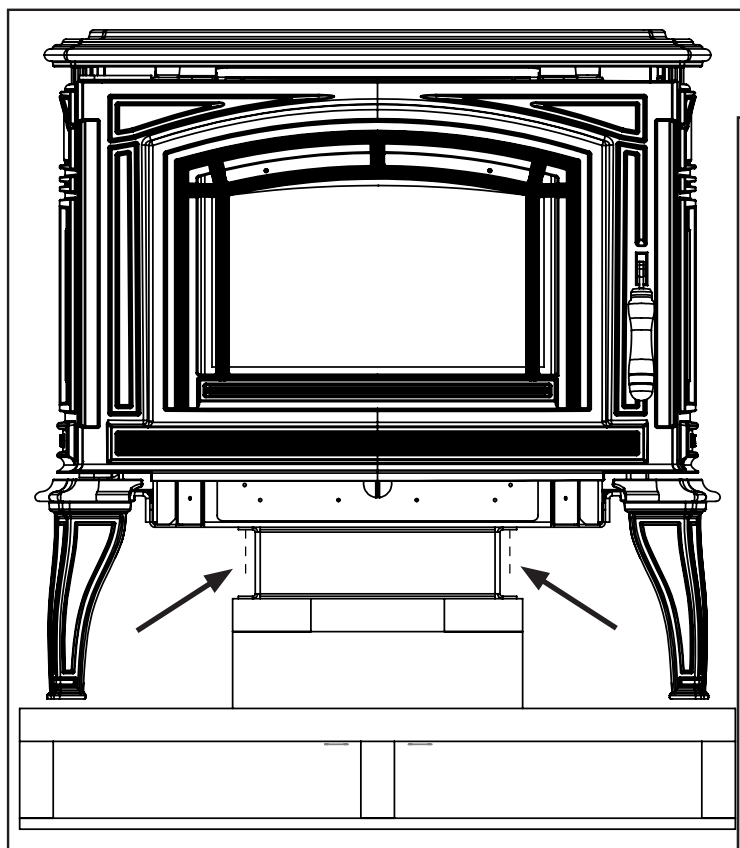
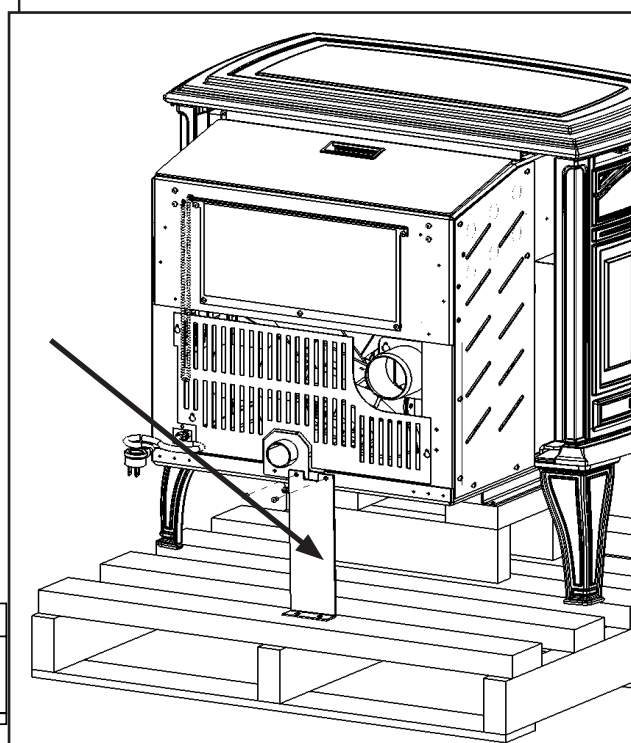

Figure 12: Meridian Cast Iron - Bottom Screws
Figure 13: Meridian Cast Iron - Rear Screws
To remove your new stove from its pallet, remove the four (4) screws securing the bottom to the pallet using a 3/8" socket or wrench (see Figure 12). Next, remove the two (2) screws securing the rear shipping brace using a T20 screwdriver (see Figure 13) The steel shipping brackets are not part of the stove and can be recycled. Once the stove is removed from the pallet the four bottom screws must be re-installed to seal the firebox. Re-install the two rear screws as well.
Table 1: Use in conjunction with Figure 13 for allowable exterior vent termination locations.